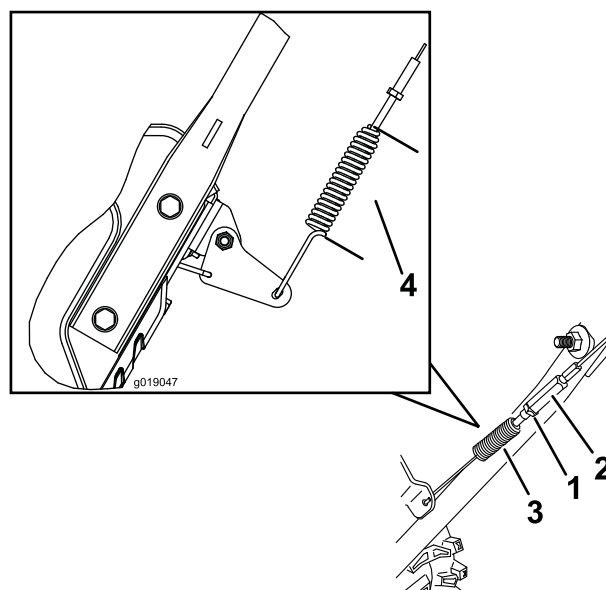

Figure 38
3. Loosen or tighten the turnbuckle to adjust the spring length to 2.75 inches (7 cm) (Figure 38).
4. Tighten the jam nut (Figure 38), ensuring there is slight tension on the cable.